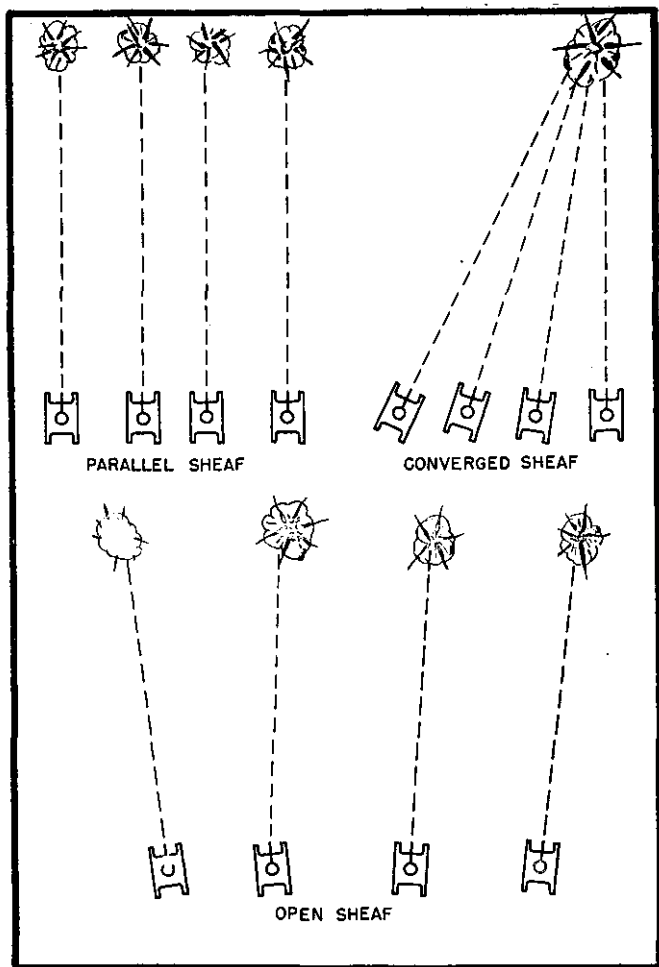

FIGURE 45.—Types of sheafs.
(2) The "sheaf" consists of the planes of fire of several guns handled as a group (fig. 45). A *converged sheaf* is one in which the fire is converged at the target. A *parallel sheaf* is one in which the guns are laid parallel. An *open sheaf* is one which is spread beyond parallel. Any gun badly out of place in the sheaf is corrected individually.
(3) Use a converged sheaf for point targets (antitank guns, pill boxes) accurately located. When firing at area targets use a sheaf approximating 100 yards. The burst of a 75-mm shell covers an area 30 yards wide. Therefore, the maximum front which can be covered with fire with four tanks is 120 yards, the distance between flank bursts being 100 yards.